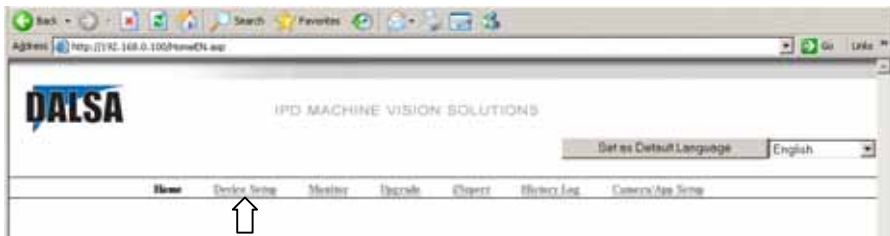

Figure 12. The Vision Appliance Home Page
6. On the Appliance Home Page, click on “Device Setup” (see Figure 12).